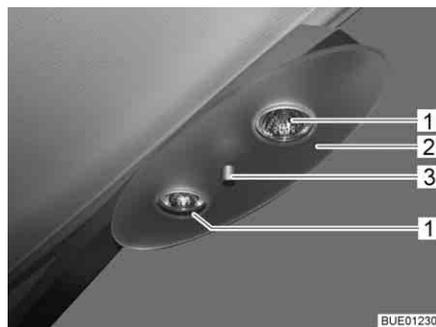

Fig. 233 Halogen ceiling lamp
- Unscrew retaining nut (Fig. 233,3) and remove cover plate (Fig. 233,2).
- Remove halogen bulb (Fig. 233,1).